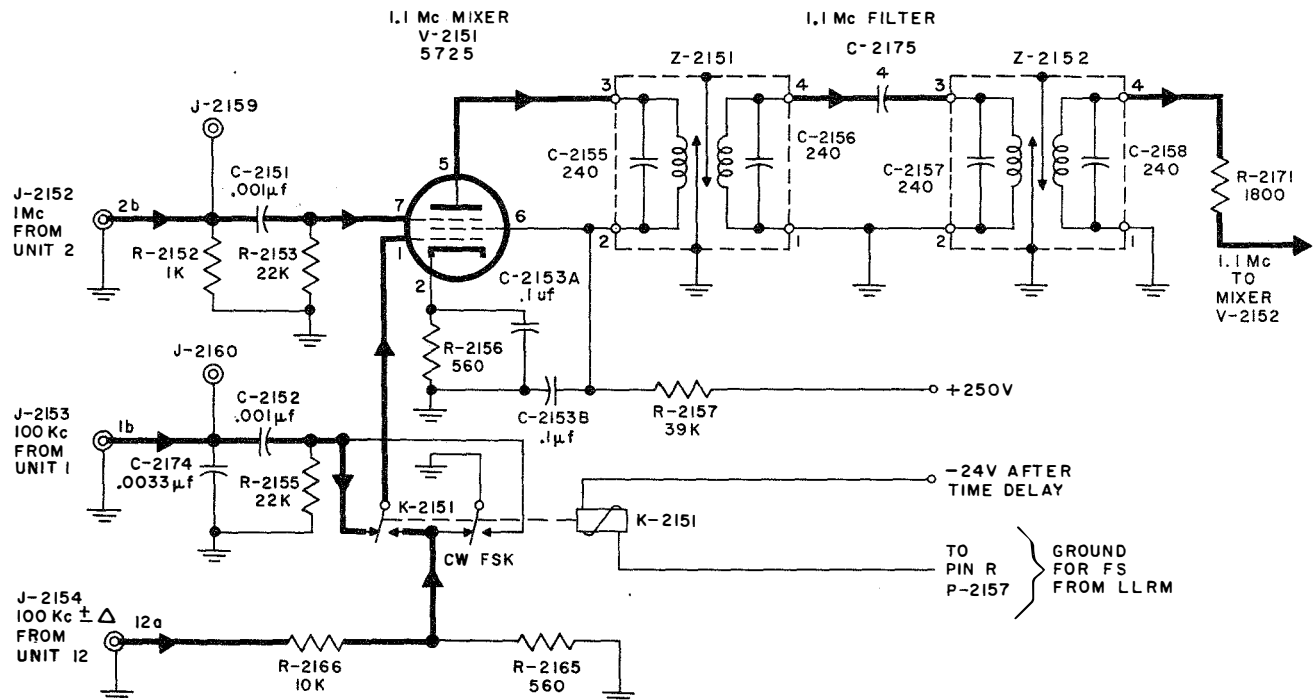

Figure 2-12. RFO Unit 5, 1.1-Mc Mixer V-2151, Simplified Schematic
(1) 1.1-MC MIXER V-2151.—Whenever SERVICE SELECTOR switch \textcircled{U} in the LLRM is in FSK or FAX position, relay K-2151 is energized from -25 volts after time delay to the "ground for F.S." line supplied from the LLRM (paragraph 7c(8)) and input 12a ($100 \text{ kc} \pm \Delta$) from unit 12 is applied to the control grid of mixer V-2151 (figure 2-12) through R-2166 and the contacts of K-2151. With SERVICE SELECTOR switch \textcircled{U} in any other position, relay K-2151 is de-energized, and, as a result, input 12a is grounded through R-2166 and input 1b (100 kc from unit 1) is applied to the mixer control grid. The 1-mc input from unit 2 (2b) is applied to the mixer suppressor grid. The mixer output is filtered by Z-2151 and Z-2152. The resulting 1.1-mc signal is applied to the suppressor grid of the second mixer, V-2152.